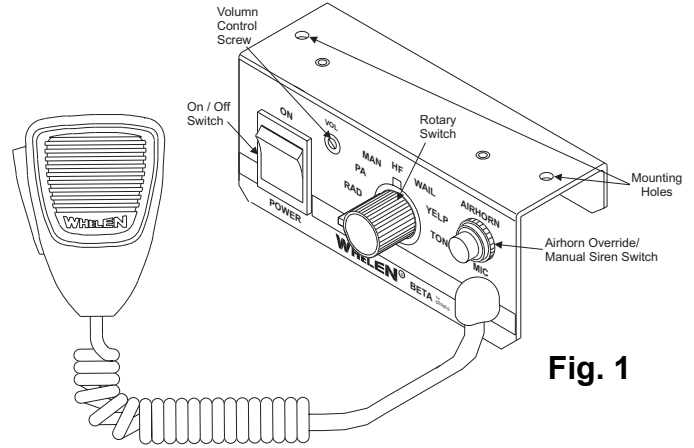

Fig. 1
2. Position the control head on the proposed mounting location. Using a pencil or other suitable tool, scribe the mounting surface where the holes are to be drilled. (Fig. 1)